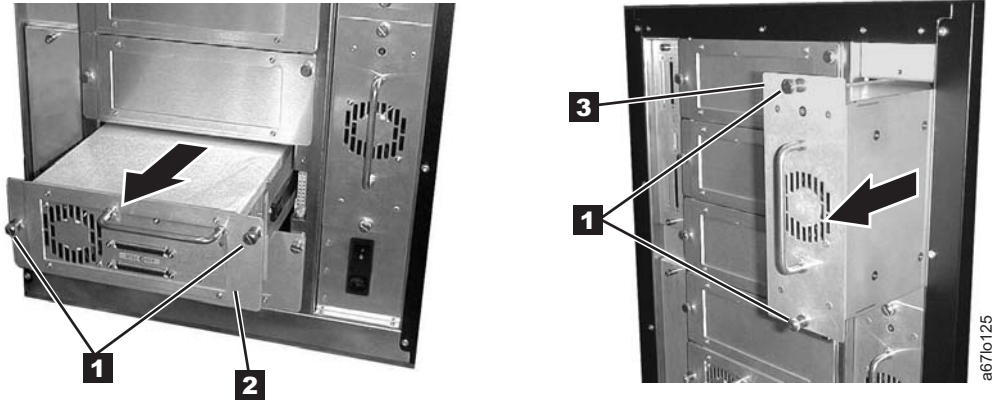

Figure 14-17. Removing the drive sleds and the DC power supplies. The figure shows an Ultrium 1 Tape Drive on the sled.
3. To reduce its weight, remove all drive sleds and dc power supplies that are installed in the library. Note the position of the drive sleds as you remove them; you will need to replace them in the same positions. Loosen the captive thumbscrews **1** and slide the drive sled **2** and dc power supply **3** out of the chassis (see Figure 14-17 on page 14-22).